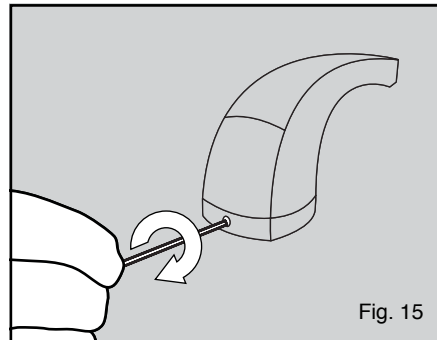

Fig. 15
16. **IMPORTANT** – Using the Allen wrench provided, tighten the set screw clockwise on the back of the soap discharge head until it is tight. The head of the set screw should be flush to below the surface of the soap discharge head. (see figure 15).